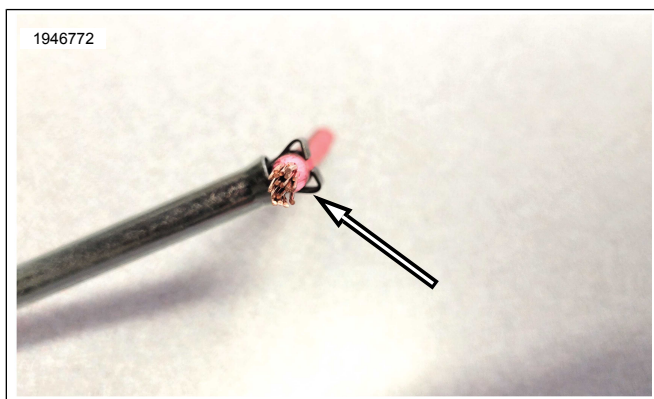

Figure 14. Mechanically Grip Wire
- b. See Figure 14. Mechanically grip wire to assist in soldering process.